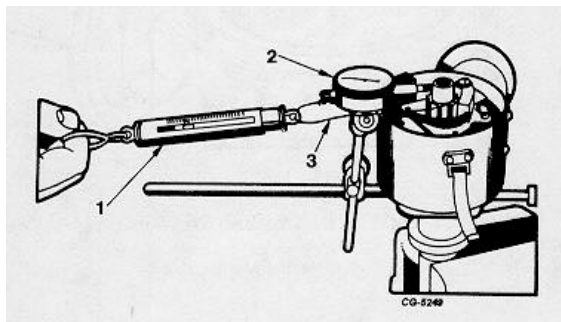

Fig. 8. Shaft and Bushing Wear Test
3. Attach dial indicator to distributor housing so that indicator plunger rests against top portion of trigger wheel assembly (Figure 8).
4. Place one end of a wire loop around top of trigger wheel assembly (rotor shaft). Hook a spring scale in other end of wire loop and pull on a line with plunger of dial indicator (Figure 8). Wire loop must be perpendicular to shaft to assure a straight pull. Also, loop must not interfere with dial indicator mounting bracket.